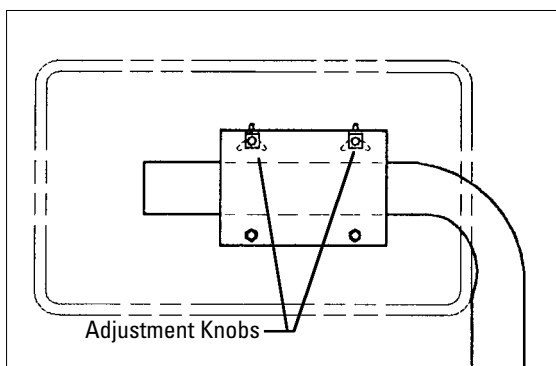

Figure 3 - Control Pod Adjustment Knobs
6. Loosen the two adjustment knobs on the back of the control pod (Figure 3).